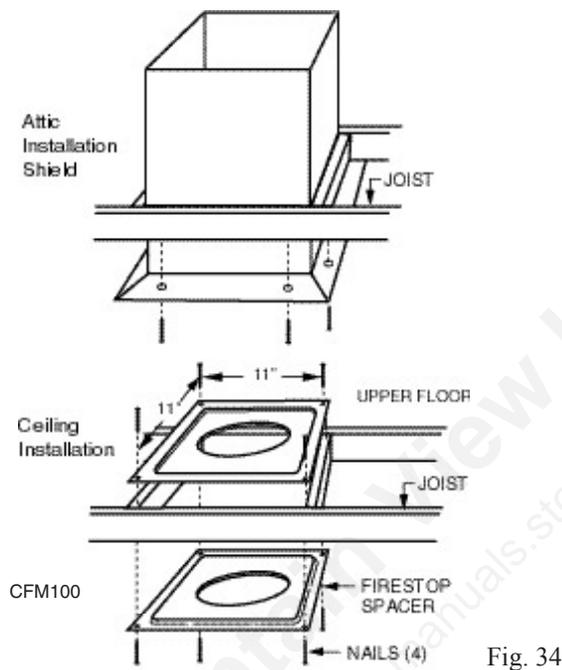

Fig. 34
6. Place firestop(s) #7DVFS and Attic Insulation Shield #7DVAIS (if required) into position and secure with screws or nails. (Fig. 34)